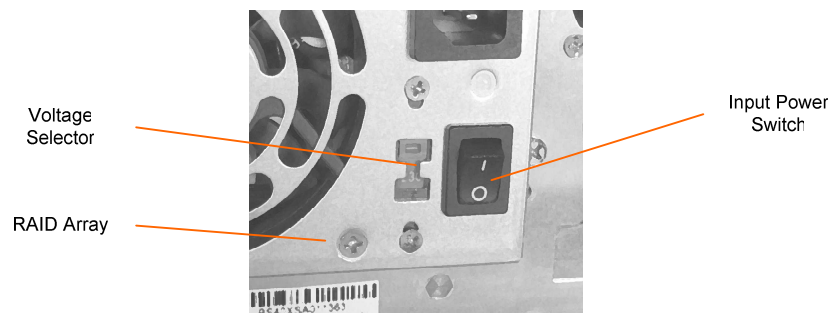

Figure 1.27: Back panel with voltage selector and input power switch.
- Be sure that value set by switch on RAID-array back panel corresponds to voltage in AC network in your region. Both variants are possible: 110V or 220V (Figure 1.27)
- Move switch on back panel of the RAID-array to position «1». (Figure 1.27)